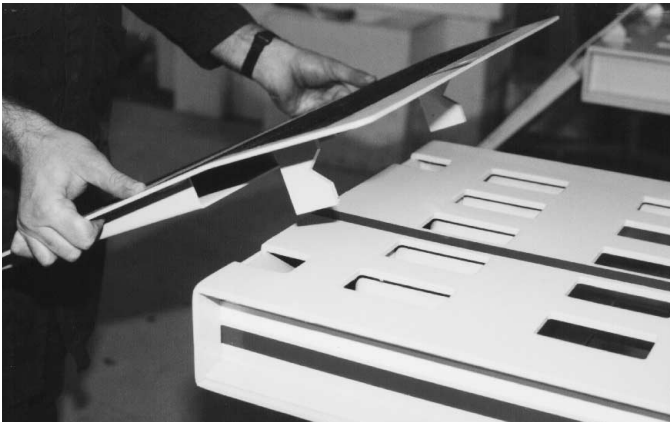

Figure 12
- b. Remove loading ramp (see Figure 12) when moving auxiliary tower past end of treadway and when pull requires tower to be positioned where ramp is mounted.